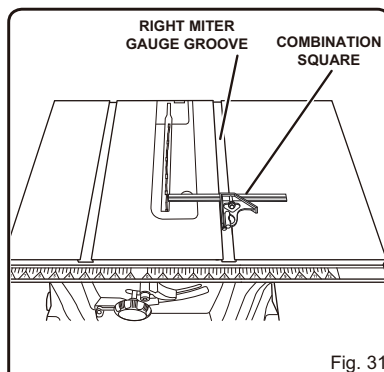

Fig. 31
See Figures 31 - 33.
- Mark beside one of the blade teeth at the front of the blade. Place a combination square even with the front of the saw table and the side of the saw blade as shown in Figure 31.